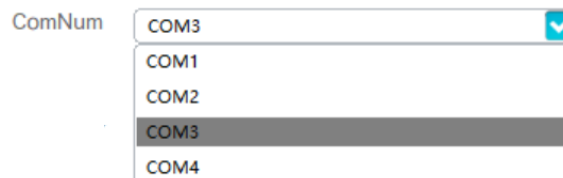

Figure 4-11 Selection of connection serial number
4. Click the icon  to select the serial number and baud rate, and click the  to set whether automatic connection is used for the next software startup, as shown in figures 4-11, 4-12 and 4-13.